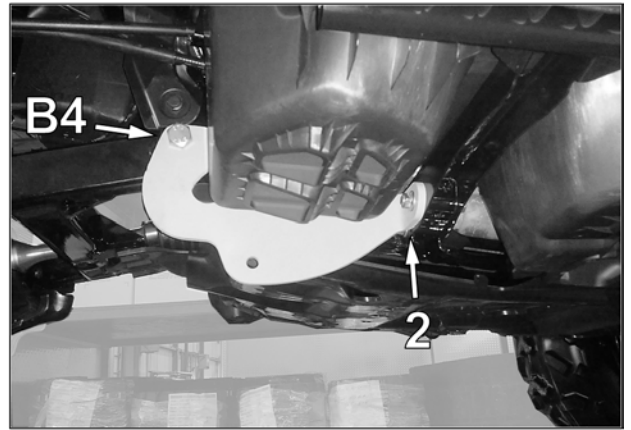

Fig. 7
7. Pivot the anchor plate up to align the holes and re-insert bolt through splashguard support and anchor plate. Re-install original nut (2) on bolt and tighten this bolt first to 24 N•m [18 lb•ft] of torque and then bolt (B4) to 80 N•m [59 lb•ft]. See Fig. 7